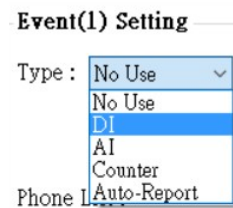
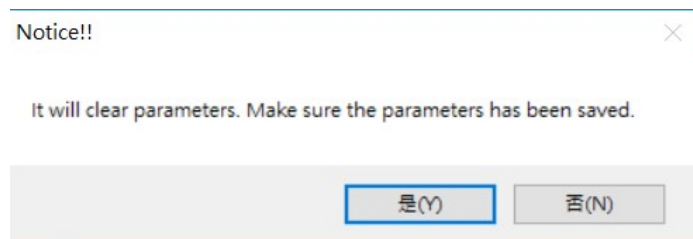

Figure 6.10.6
Figure 6.10.7
- E. Select “DI” in Type as shown in Figure 6.10.6. After selecting, it will pop up the attention window and select “Yes” as shown in Figure 6.10.7